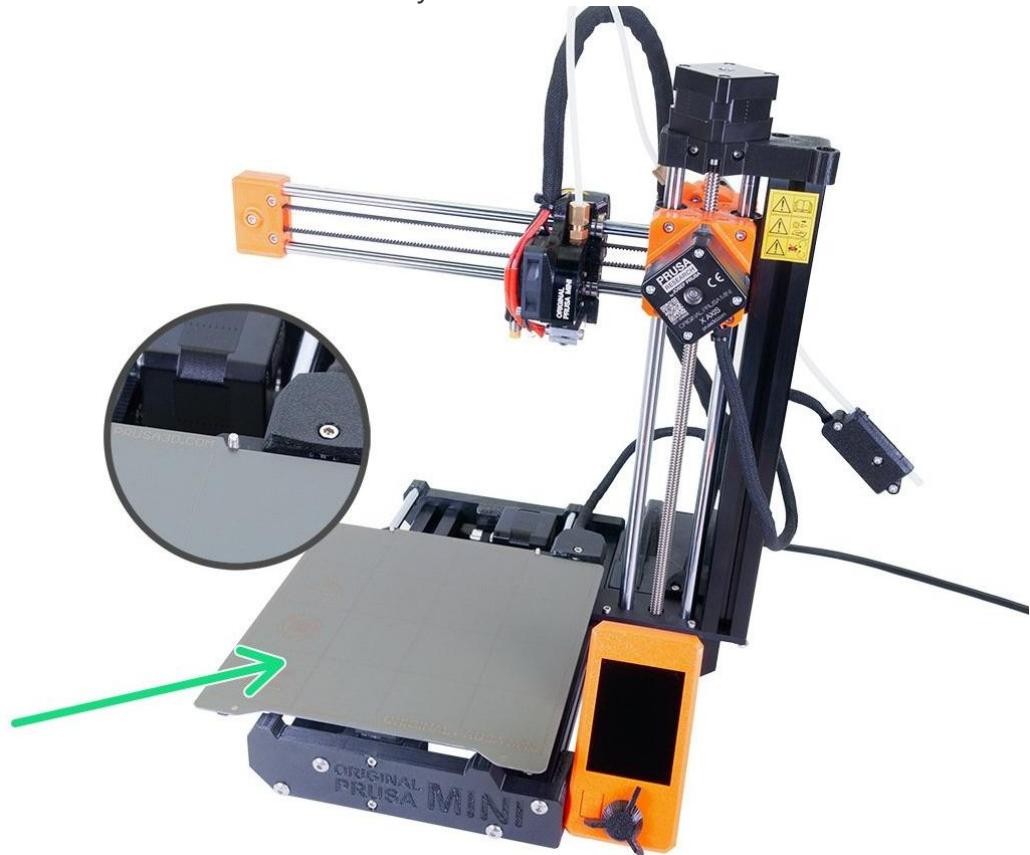

Figure 5.5.3
**Step 5-5-3:** As shown in Figure 5.5.3. Place the PEI MINI sheet on the heatbed. Double-check it is oriented correctly.